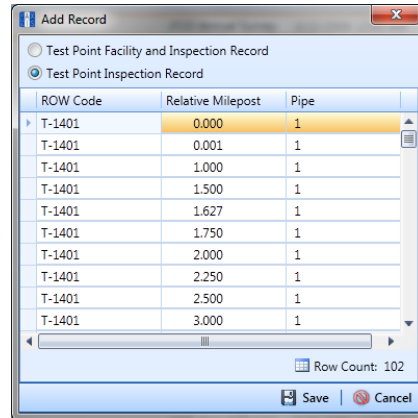

Figure 6-10. Add Record
- 5 Click  **Add** to open the *Add Record* dialog box (Figure 6-10).